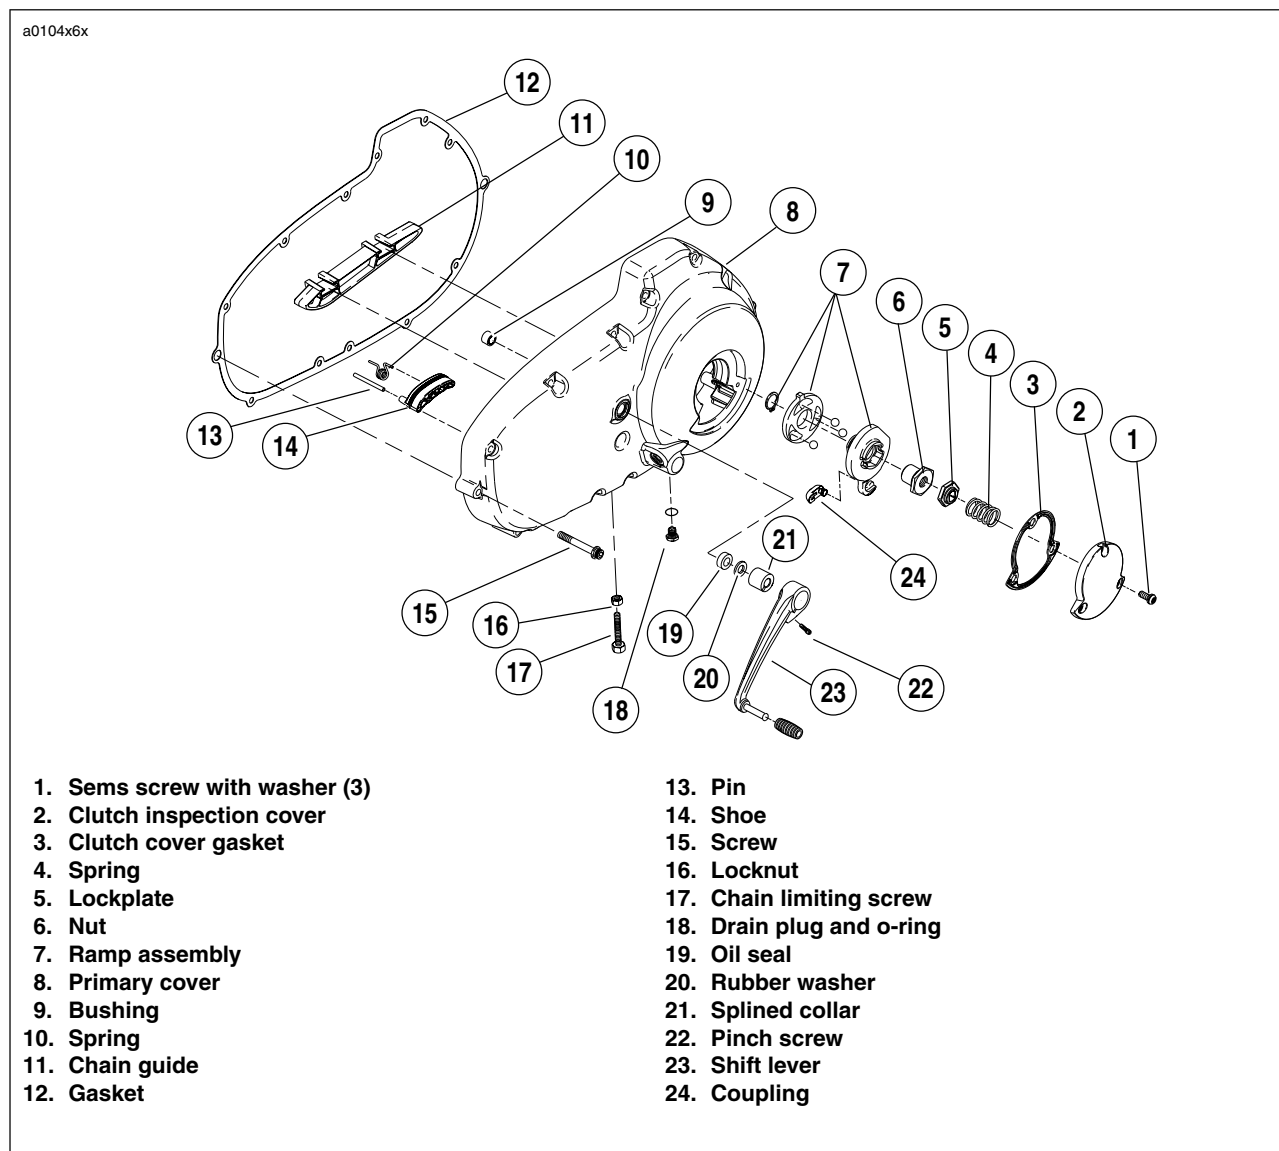

Figure 6-1. Primary Cover and Shifter Assembly
3. See Figure 6-1. Place a drain pan under the engine. Remove drain plug and drain lubricant from primary drive.
4. See Figure 6-1. Install **new** shifter lever oil seal.
11. See Figure 6-1. Install rubber washer and shifter lever assembly and tighten pinch screw to 12-14 ft-lbs (16-19 Nm)